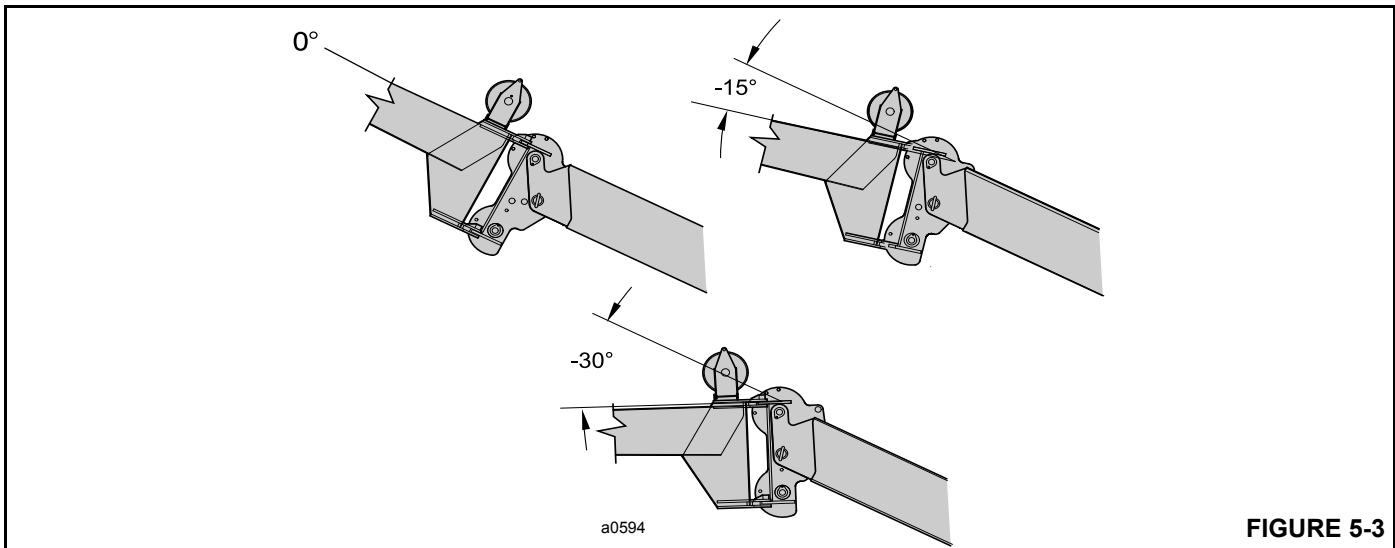

FIGURE 5-3
The minus 15° and minus 30° boom head angles are used to offset the boom extension. See Figure 5-3.
The boom extension offset is adjusted by moving the boom head to a minus 15° or 30° (Figure 5-3). With the extension attached it is necessary to raise or lower both the extension and the boom head simultaneously.
5. Raise or lower the main boom until the desired offset angle is achieved. (Figure 5-3).